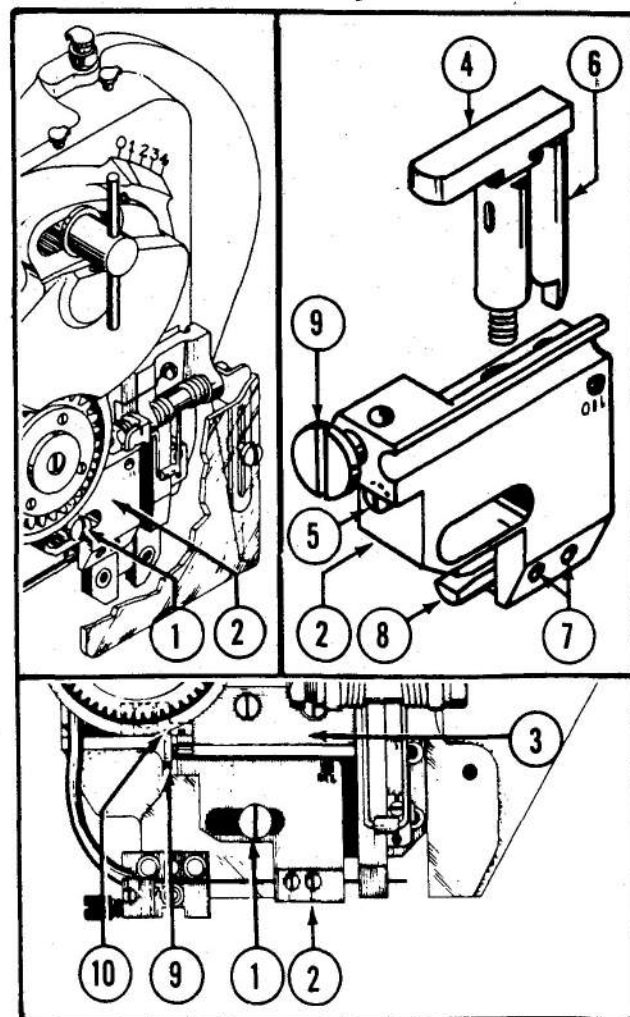

Figure 18—Removing and Replacing Movable Cutter
d. MOVABLE CUTTER (See Fig. 18)—The cutting edge of the movable cutter should be periodically checked for sharpness. A dull cutter can be resharpened but eventually must be replaced.